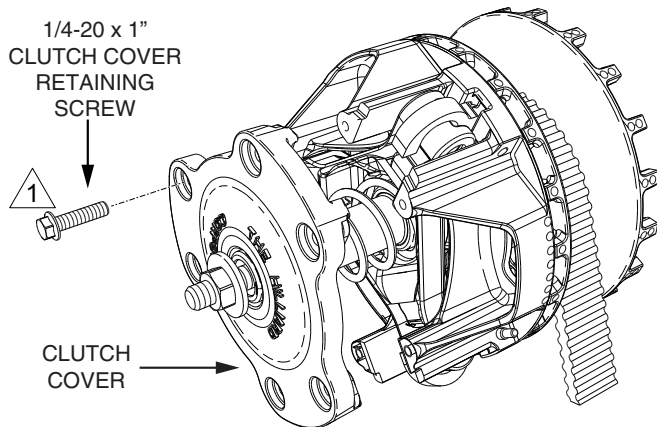

Figure 7. Clutch Cover Bolt Removal
- Using a 3/8" socket, remove the six 1/4-20 x 1" clutch cover retaining screws (Figure 7) in a star pattern and set screws aside.